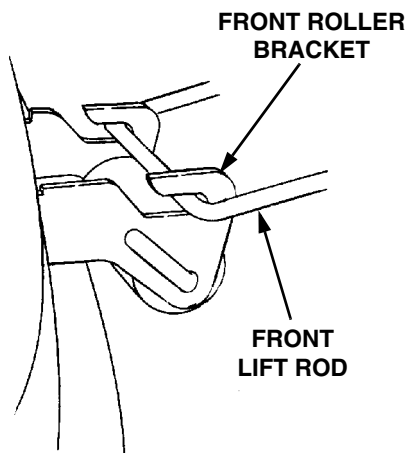

Figure 45
6. While holding the front lift rod up, slide the mower deck forward until the rod aligns with both front roller bracket slots. Lower the lift rod into the front roller bracket slots and slide the deck rearward to engage the lift rod fully forward in the slots of the deck front roller bracket (See Figure 45).